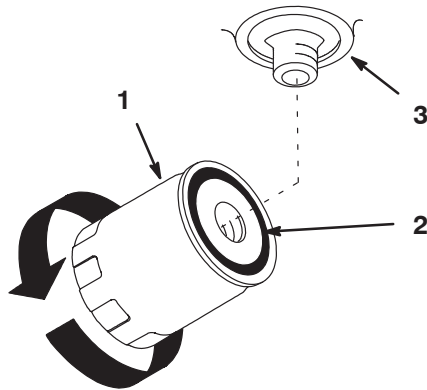

Figure 31
3. Apply a thin coat of new oil to the rubber gasket on the replacement filter (Fig. 31).
4. Install replacement hydraulic filter onto the filter adapter. Turn the oil filter clockwise until the rubber gasket contacts the filter adapter, then tighten the filter an additional 1/2 turn (Fig. 31).